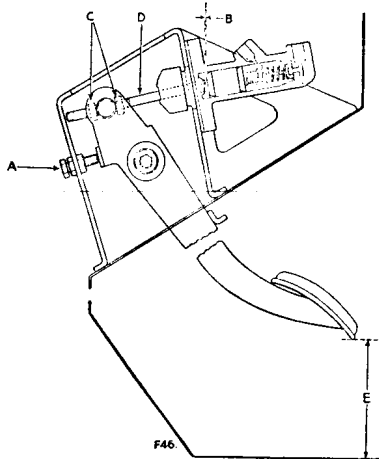

Fig. 57. Clutch linkage setting
- (1) Check the free play between the master cylinder piston and the push rod. See Fig. 57. This free play should be $\frac{1}{8}$ in. (1,5 mm) at the push rod and is felt as approximately $\frac{3}{8}$ in. (8 mm) at the pedal pad. If the movement is less than the given figure:
- (2) Slacken off the locknut and rotate the push rod with the fingers until the correct movement has been obtained.